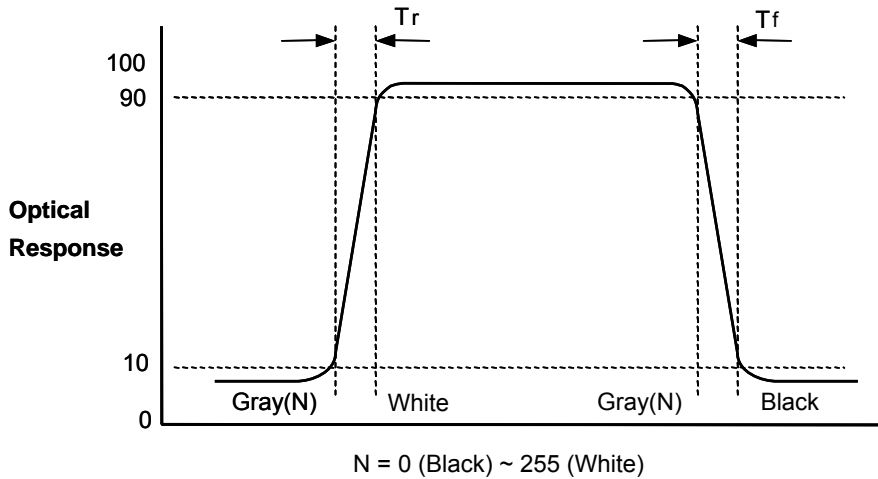

FIG.3 Response Time
4. Response time is the time required for the display to transit from any gray to white (Rise Time, TrR) and from any gray to black (Decay time, TrD). For additional information see the FIG. 3.